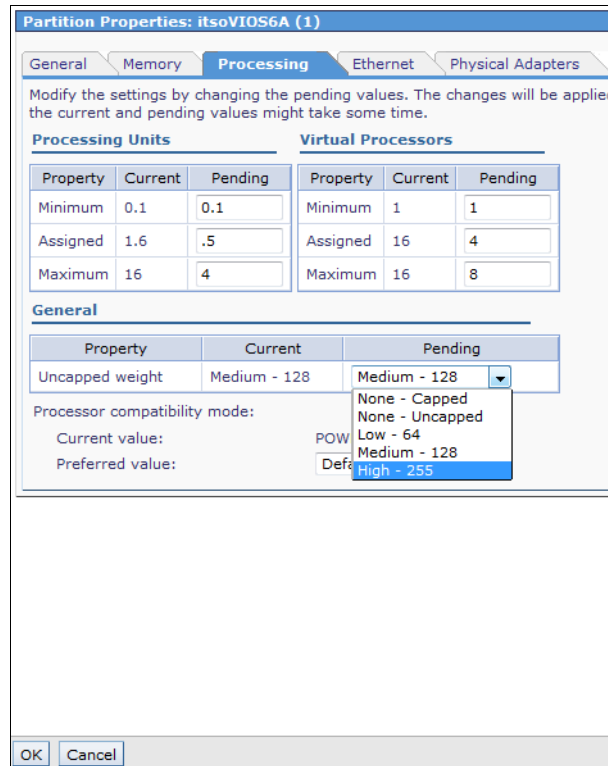

Figure 8-59 IVM Partition Properties Processing tab
- Click the **Processing** tab, as shown in Figure 8-59 to change the values of processing units, which are also known as entitlement, virtual processors, capping values, and processor compatibility mode. As with memory changes, values that lower the existing minimum or increase the maximum values require a restart of the node to synchronize.